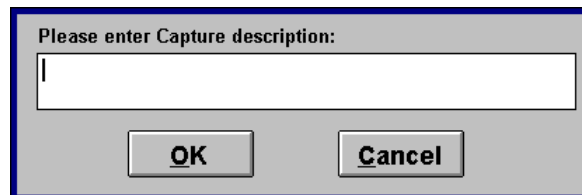

Figure 4-3 Capture Window
2. Click **Capture** from the **Snapshot** pull-down menu in the Trend Screen's Main Menu to display the "Capture" window (refer to Figure 4-3), which is similar to the one associated with the Go snapshot.